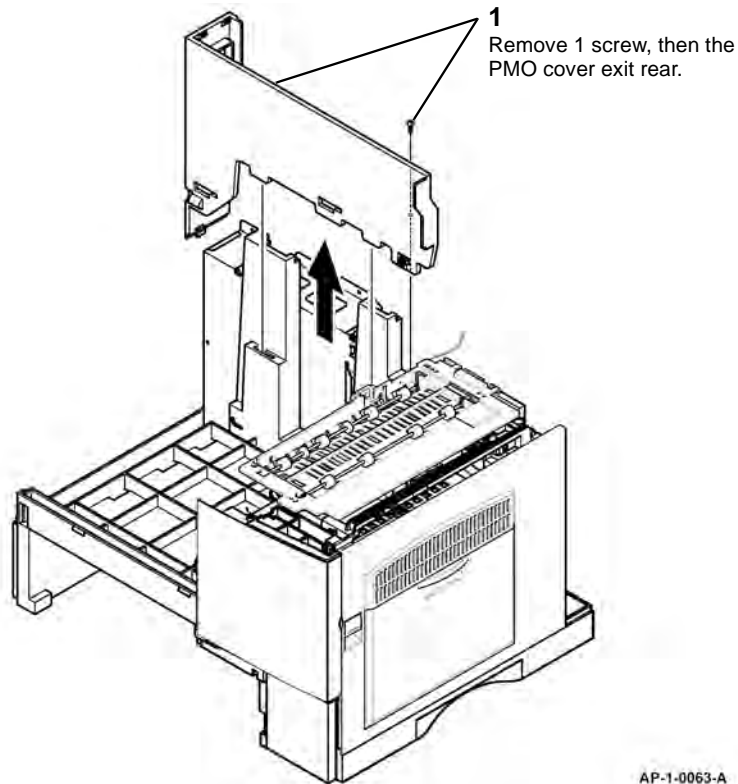

Figure 2 PMO cover exit rear removal
4. Remove the PMO cover exit rear, Figure 2.